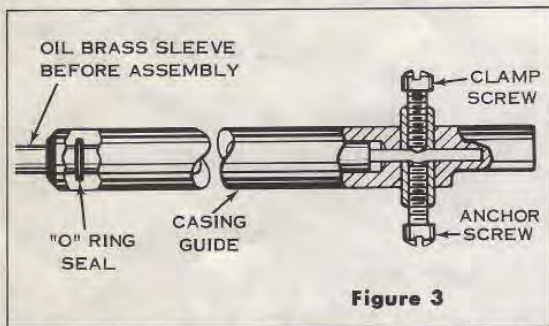
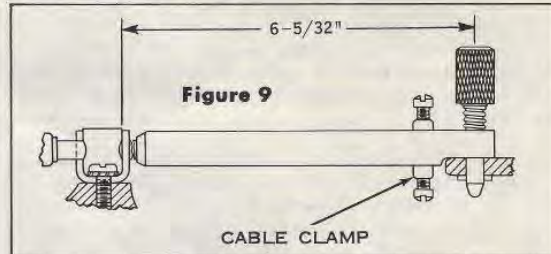
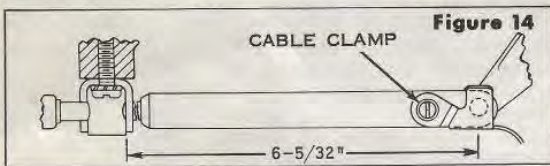

Figure 3
Figure 9
Figure 14
Secure anchoring of the control wire in its respective fitting is of great importance. It must be properly secured at both ends to guard against loosening and ultimately dislodging during operation of the unit. See Figure 3.
in casing guide and control wire passes through small holes in cable clamp. See Figure 3. Near side of cable trunnion must be exactly 6-5/32 inches from center of knurled knob on gear shift fitting. See Figure 9. In order to avoid twisting cable, clamp and anchor screws must be parallel to trunnion on gear shift cable. Knurled knob on fitting must be toward outside of motor. Anchor fitting to wire as instructed under "Anchoring Control Wires."
4. Place speed control lever on control box halfway between SLOW and FAST (straight up). Lubricate brass sleeve on flexible cable with oil and slide speed control fitting on brass sleeve and control wire. Be sure that "O" ring is in place in casing guide and control wire passes through small holes in cable clamp. See Figure 3. Near side of cable trunnion must be exactly 6-5/32 inches from center of hole at end of speed control fitting. See Figure 14. In order to avoid twisting the cable, clamp and anchor screws must be perpendicular to trunnion on speed control cable. Clip on speed control fitting must be toward outside of motor. Anchor fitting to wire as instructed under "Anchoring Control Wires."